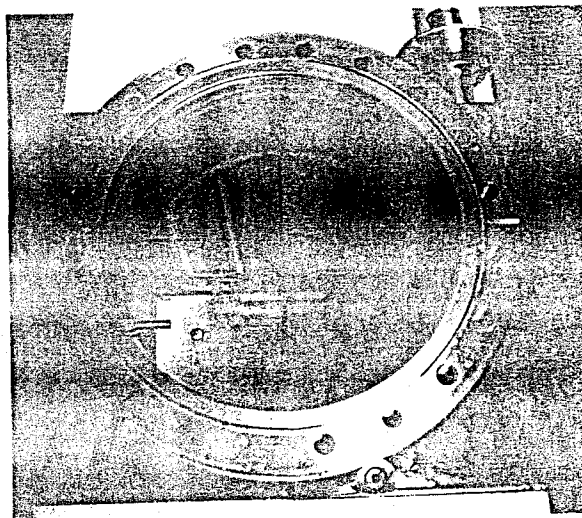

Fig. 4-1 - Inside view of a VacIon *Plus* pump
- 2) Remove the element holding brackets (see Fig. 4-1).